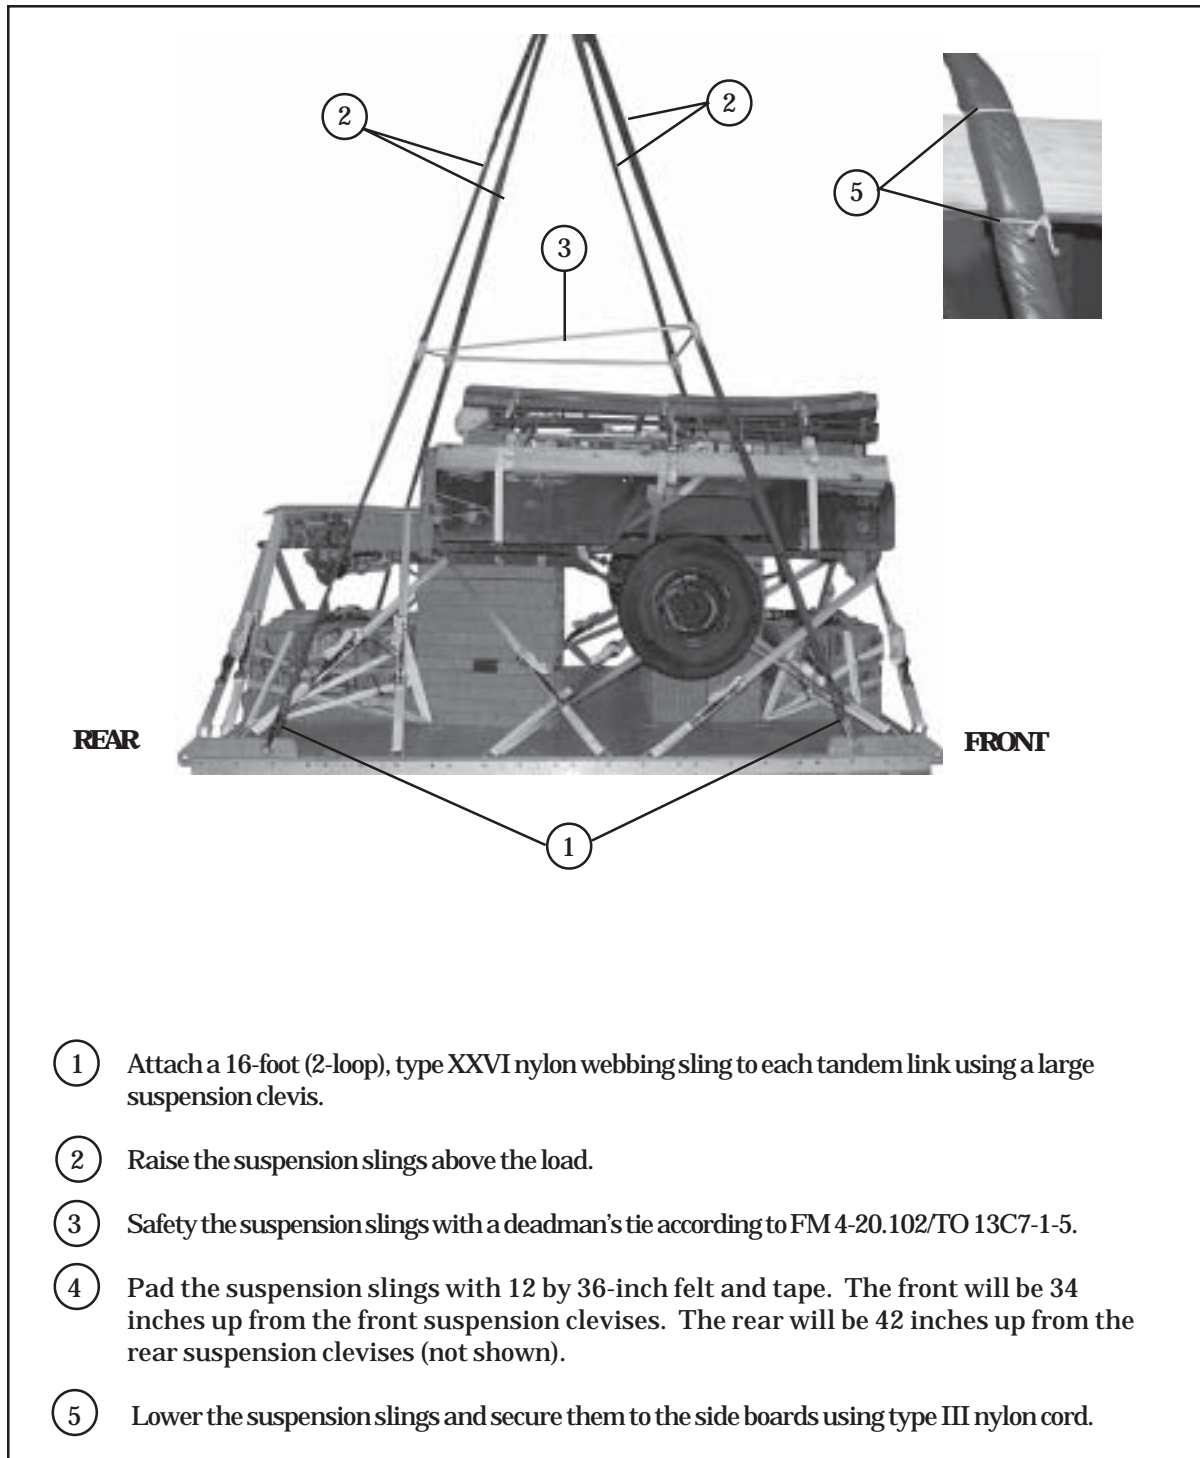

Figure 24. Suspension Slings Installed and Safety Tied
11. Install and safety tie four 16-foot (2-loop), type XXVI nylon webbing slings as shown in Figure 24.